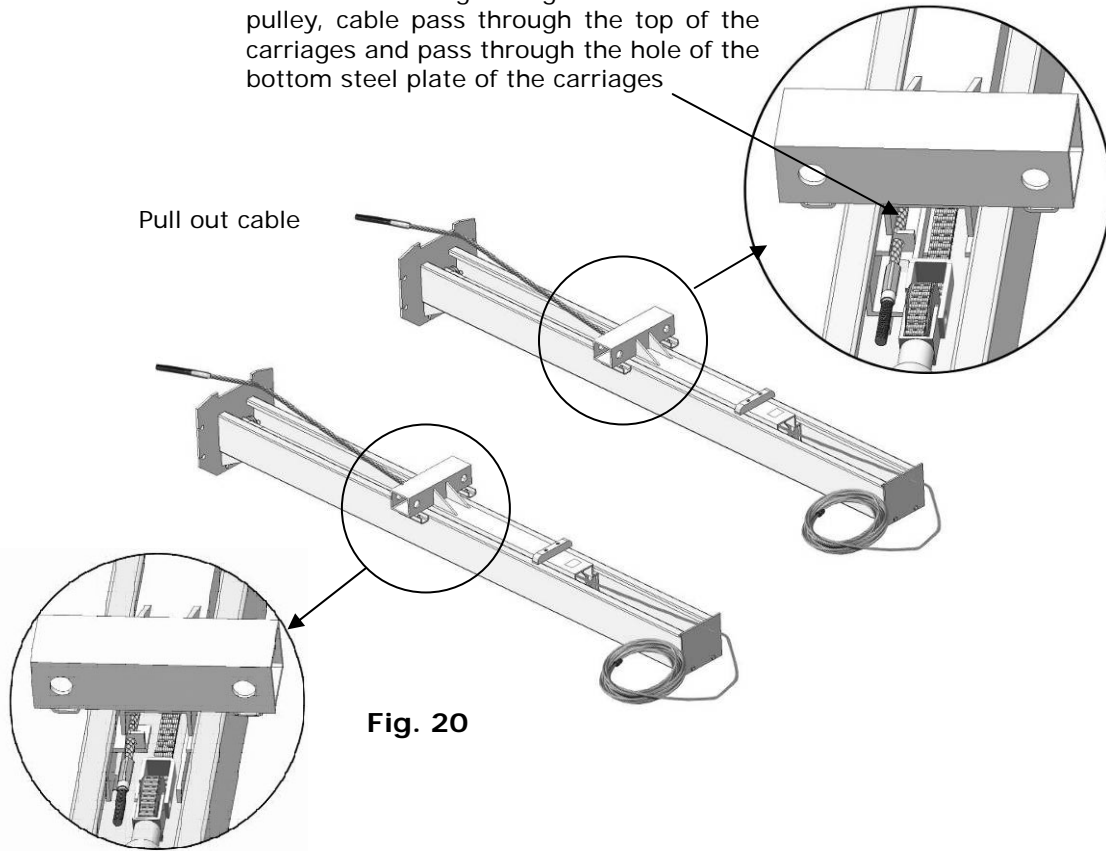

Fig. 20
1. Push the carriages higher than chain pulley (See Fig. 20).